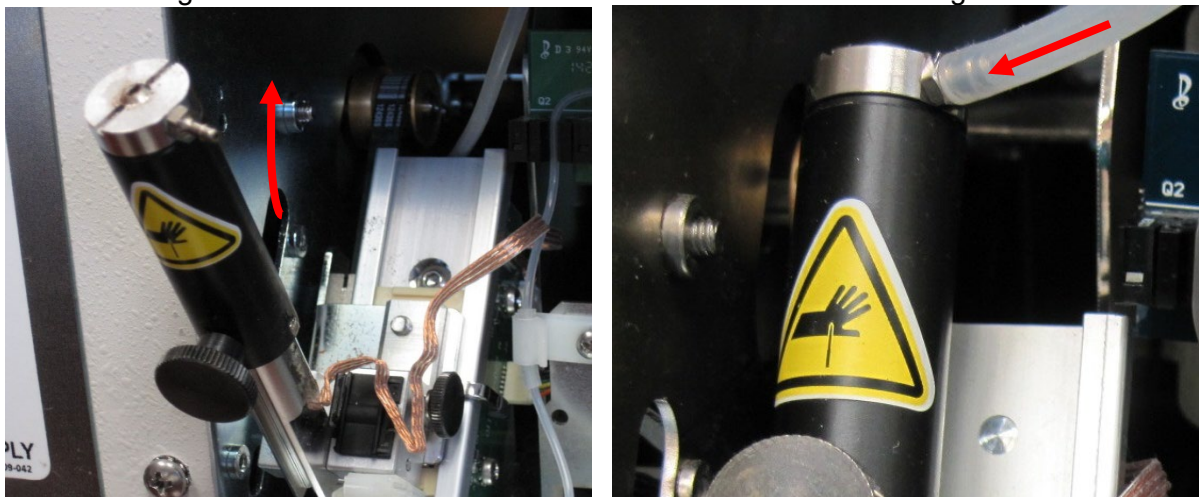

Figure 32
- 8.9. Pivot the Needle Piston Assembly back into the operational position. Replace the Washing Tube back onto the Barb Connector of the Probe Tube. Figure 32.